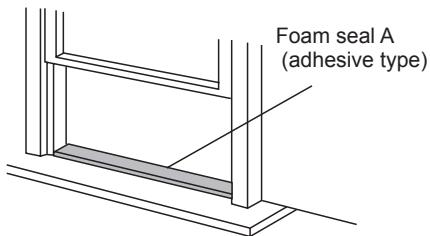

Fig. 8
1. Cut the foam seal (adhesive type) to the proper length and attach it to the window stool. Fig.8